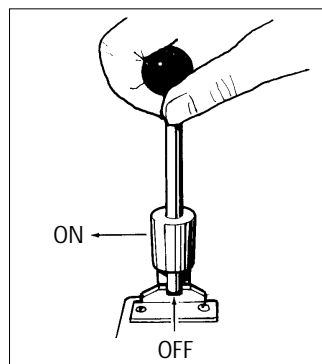

Figure 28 - Engage automatic cross feed
18. Engage the automatic cross feed (figure 28) by moving the lever to the rear of the lathe. The cross feed will stop automatically when the cutting tools have moved all the way across the face of the rotor.